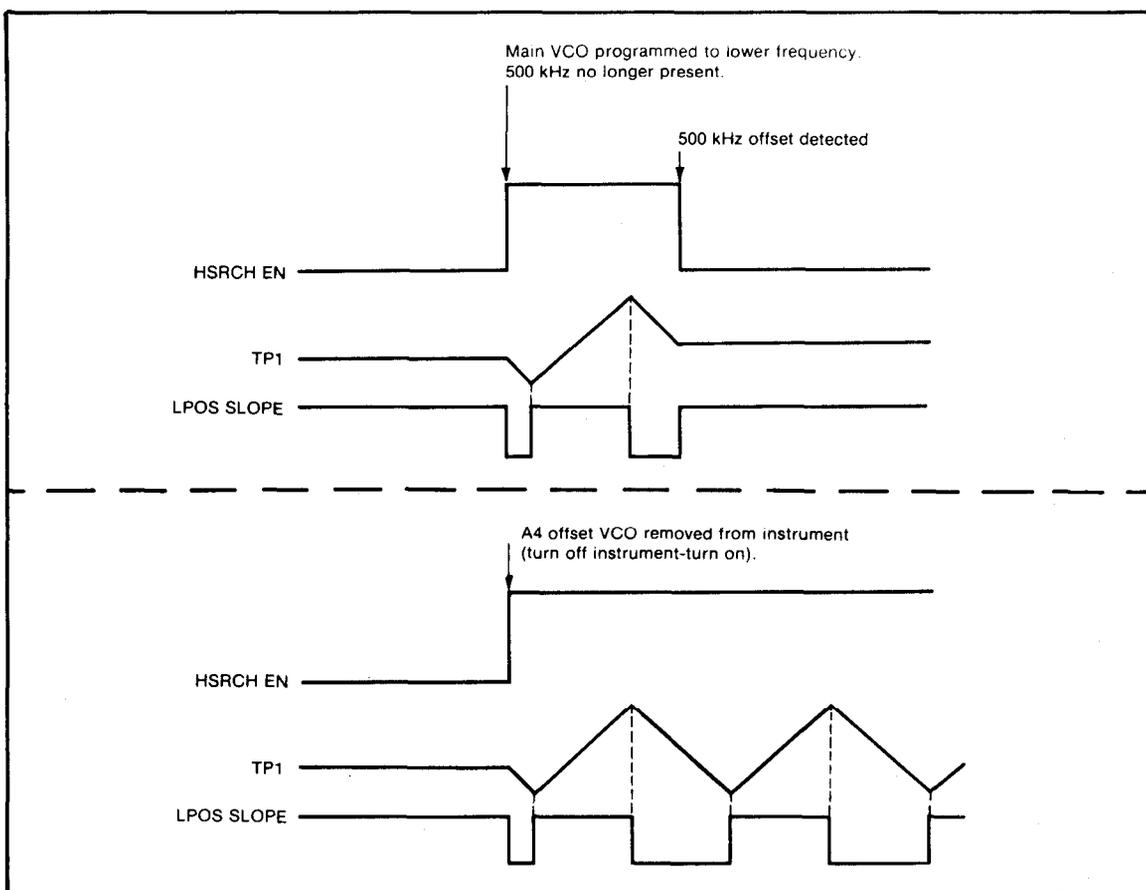

Figure 8-11. Timing Diagram of A6 Search Generator Operation
8-165. When the sweep ramp present at U1D(12) crosses above the upper threshold of 1.6 volts, the output of U1D(11) goes low, U1B(6) goes high and U1A(3) goes low. This causes Q4 to conduct which forward-biases CR4. Since U1B(6) is high, CR3 is reversed-biased. Current is now supplied through CR4 to the integrating capacitor C10. This causes the output of U2(6) to decrease linearly. Since U1A(3) is low, LPOS Slope is TTL low and the loop is allowed to lock once a 500 kHz difference frequency is detected on A7. When lock is achieved, HSRCH EN goes TTL low which causes U1B(6) and U1A(3) to both go TTL high, thereby reverse-biasing both CR4 and CR3. The voltage at the output of U2(6) is therefore maintained at that level which achieved lock. The timing diagram for this operation is shown in *Figure 8-11*.